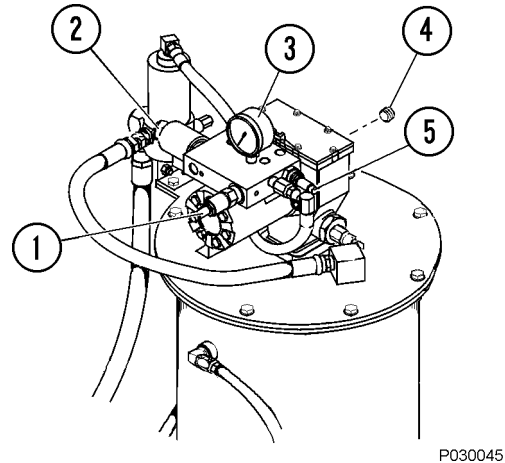

FIGURE 4-6. PUMP CONTROLS
The pump housing must be filled to the proper level with SAE 10W-30 motor oil. Oil level should be checked at 1000 hour intervals. To add oil, remove pipe plug (4, Figure 4-6) and fill housing to bottom of plug hole.
1. With the truck engine running, activate the lube system manual test switch (2, Figure 4-6) to start the hydraulic motor and pump.
2. Loosen the locknut on the pressure control (1, Figure 4-6) by turning the nut counterclockwise.